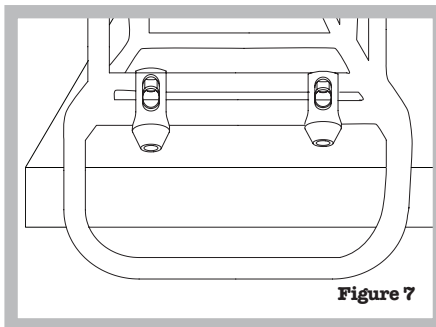

Figure 7
7. Install upper barrels onto the rack tube as shown in Figure 7.